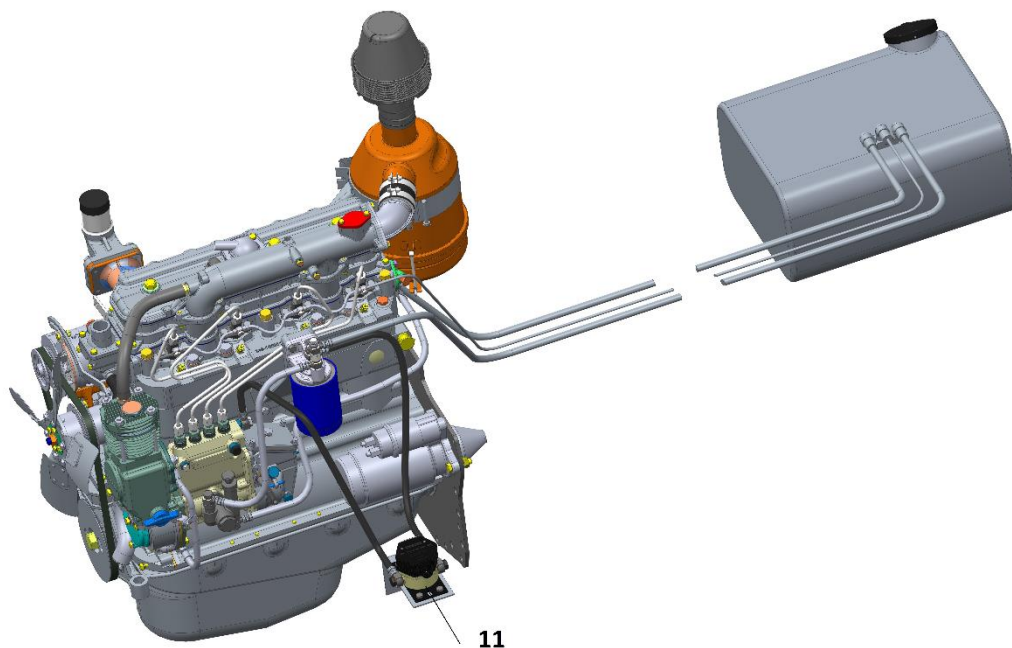

fig. 4.7. Connection of eurosens Direct (ind. 11).
- 5) Connect the flowmeter outlet to the HPFP inlet (fig. 4.7). Arrow marks on flowmeter case indicate the direction of fuel flow.